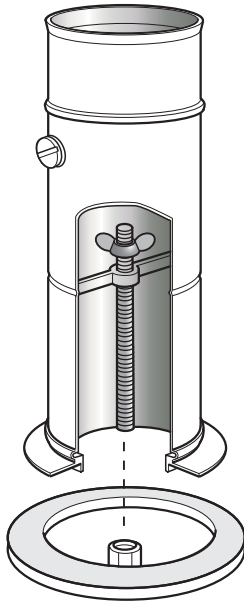

Fig. 21 - Boiler flue connector
8. Fit the boiler connector (from the CF adaptor kit) over the threaded studding. Position flange on to the neoprene gasket around the boiler flue outlet, ensuring that small spigot on the base of the connector is located in the hole in the centre of the neoprene gasket and that end of studding passes through the hole in the of the spacer bracket. Fit washer and wing nut provided onto end of threaded studding and secure connector in position by tightening down on wing nut – as shown in Fig.21.